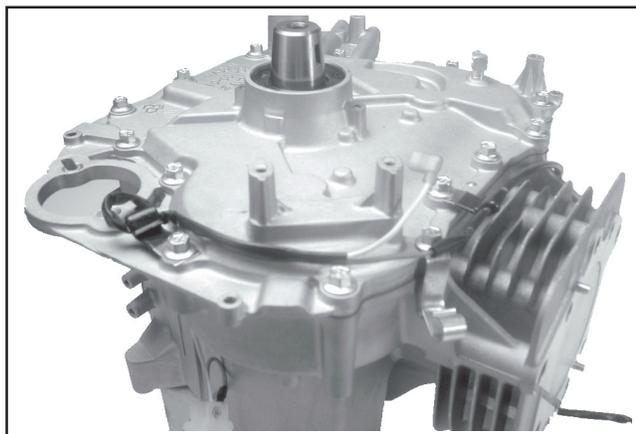

Figure 10-30. Closure Plate Installed.
4. Install the fourteen hex. flange screws securing the closure plate to the crankcase, with any clamps for the wiring harness and the sheathed RFI suppression spark plug lead (#5 location, if so equipped), positioned as shown in Figure 10-30. If the wiring harness was separated from the closure plate, route the harness through the clamps and the slot in the closure plate. Close the clamps to retain the harness.